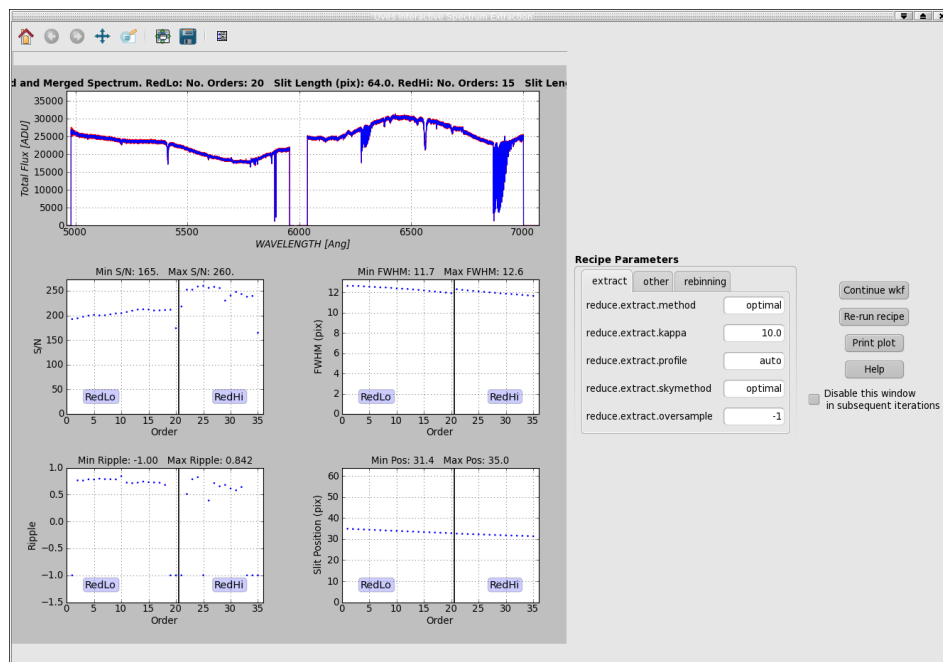

Figure 7.0.7: The interactive window for the Spectrum Extraction actor for the first DataSet in the data supplied with Reflex 2.0.
- Spectrum Extraction:** In Figure 7.0.7, we show the interactive window associated with the Spectrum Extraction actor, which executes the UVES pipeline recipe `uves_obs_scired`. This pipeline recipe performs the extraction of the science object spectrum using optimal extraction (Horne 1986), automatically selecting an analytical spatial profile (Gaussian or Moffat) in the case of low S/N spectra ($S/N < 10$) or an oversampled empirical spatial profile otherwise, and automatically determining the degrees of the low-order polynomials involved in the extraction process. The top plot in the interactive